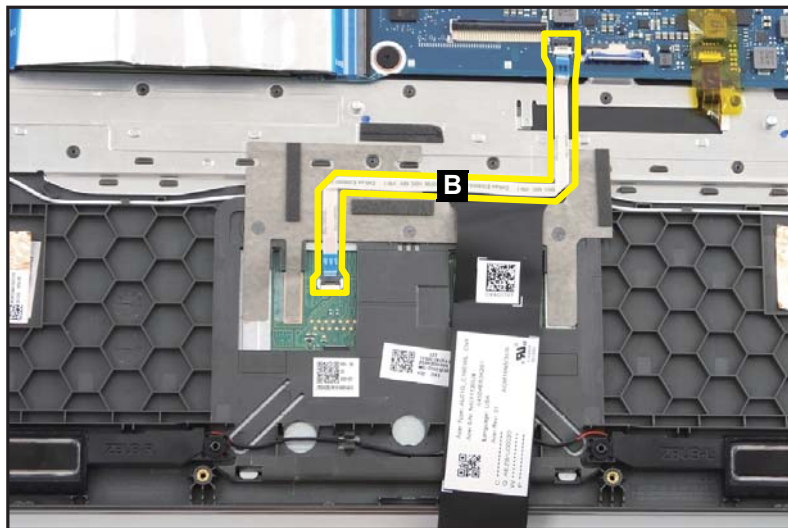

Figure 1-10. Touchpad Module Removal
2. Disconnect the touchpad FFC (B) from the touchpad module and mainboard connectors. Then remove the touchpad FFC from the top assembly (Figure 1-10).